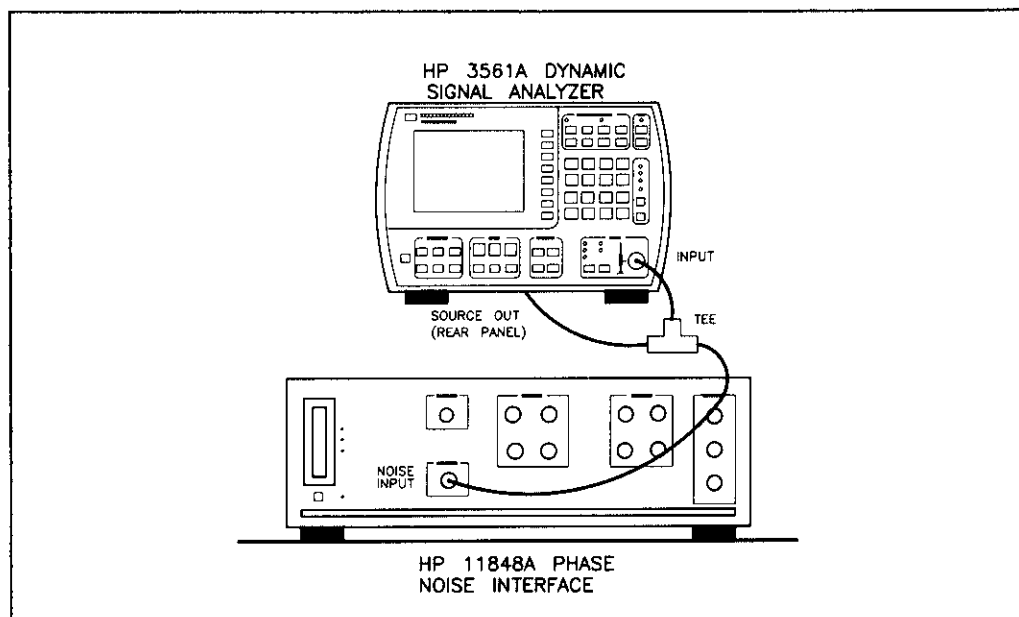

Figure 19. A4 Low-Noise Amplifier Impedance Match Adjustment Setup
10. Connect the instruments as shown on the display and in figure 19. This allows the HP 3561A to compare the loading of the noise input port to the loading of a 50 Ω termination.